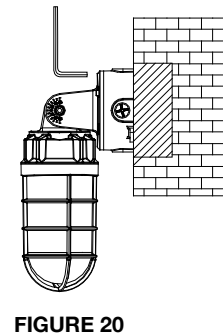

FIGURE 20
5. Lock the light fixture on the outlet box with screws (Figure 20)